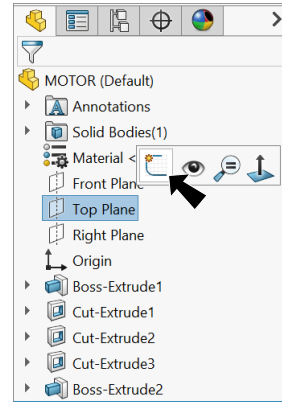

Fig. 36
Step 1. Click **Top Plane**  in the Feature Manager and click **Sketch**  on the context toolbar, Fig. 36.